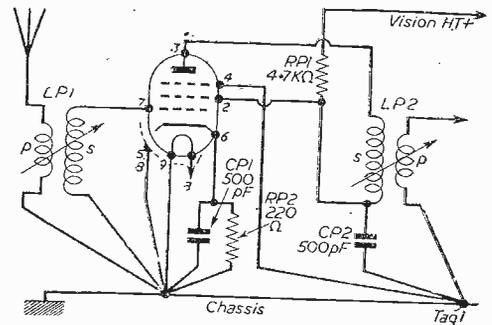

Fig. 7.—This is an R.F. stage which may be added for fringe-area reception.
The circuit of a pre-amp is given in Fig. 7. It follows the same principles as the other R.F. valves and is, in fact, a duplicate of V1 circuit. The valve should be mounted in the spare position by the side of V1 and the wiring diagram as given in the blueprint for V1 should be followed for wiring up the new valve.
**LIST OF COMPONENTS FOR FIG. 7.**